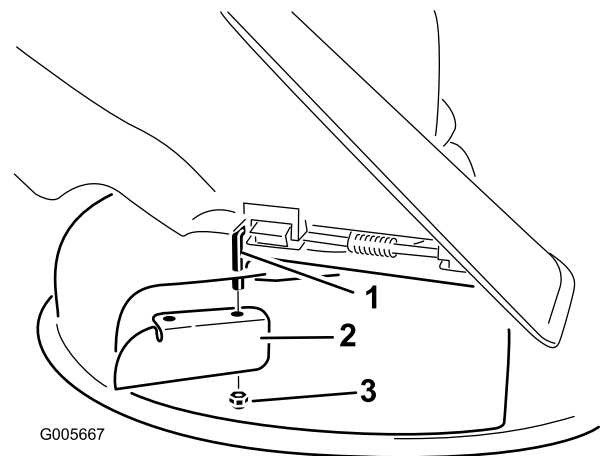

Figure 29
6. Install the cutoff baffle to the exposed pivot rod (Figure 29). Use the existing thin nut (3/8 inch) to secure the baffle to the mower.